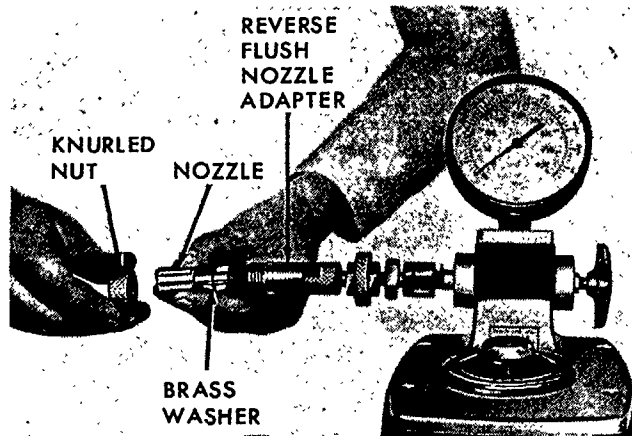

Figure 35
6. Steps 1 through 5 have outlined the procedure for removing carbon from the nozzle. The nozzle and needle must be thoroughly back-flushed to remove all loosened carbon deposits. Place the Reverse Flush Nozzle Adapter, page 32, on the Injector Tester, Figure 35. Position the nozzle and valve in the Adapter, tip end first, and secure with the knurled nut. Tighten the handle at the right of the tester to prevent possible gauge damage. Note the position of the brass washer. This washer is supplied with the service tool set and acts as a seal to prevent the loss of pressure during the back-flushing operation. (This washer is not supplied or required with the Reverse Flush Nozzle Adapter, CT 9024, page 32).